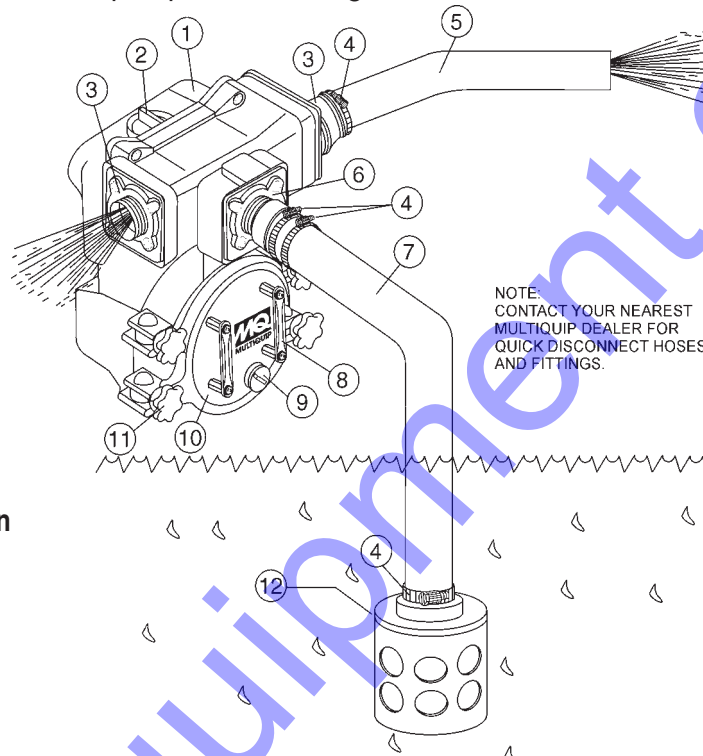

Figure 2. QP-4TE Pump Application
Figure 2 shows a typical application using the QP-4TE Centrifugal Trash pump. Please note that this pump is intended for the removal of clean water and water containing some debris and solids. Maximum size of solids should not exceed 2 inches (50 mm) in diameter. **DO NOT** set strainer on bottom of water bed. Placing the strainer above the water bed will prevent the pump from drawing in excessive amounts of sand and foreign debris.
3. To prime pump, remove fill cap (Figure 2) and fill pump casing with water. If the pump casing is not filled with water before starting, it will not begin pumping.
1. Check that all hoses are **securely** attached to the pump. Make certain suction hose (Figure 2) does not have any air leakage. Tighten hose clamps and couplings as required.
4. Check that the **discharge** hose (Figure 2) is not restricted. Place hose so that it lays as straight as it is possible on the ground. Remove any twists or sharp bends from hose which may block the flow of water.
6. Make sure the **suction strainer** (Figure 2) is clean and securely attached to the water end of the suction hose. The strainer is designed to protect the pump by preventing large objects from being pulled into the pump.